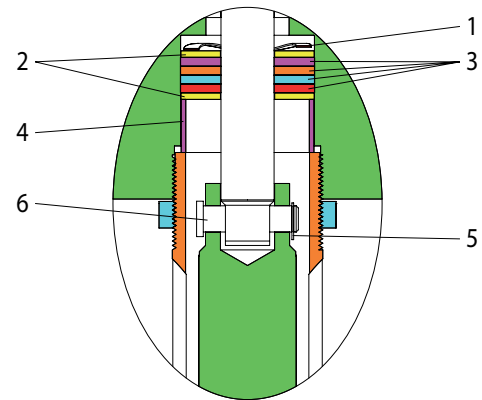

Figure 2
1. Loosen the (90571) lock nut and unscrew the entire pump from the air motor. This will expose the (6) connector pin (see figure 2).
2. Remove the (5) retaining ring and (6) connector pin to release the air motor piston rod from the lower pump piston rod.
3. Remove (4) spacer, (2) washer, four (3) packings, (2) washer and (1) wavy spring washer from the air motor cavity (see figure 2).